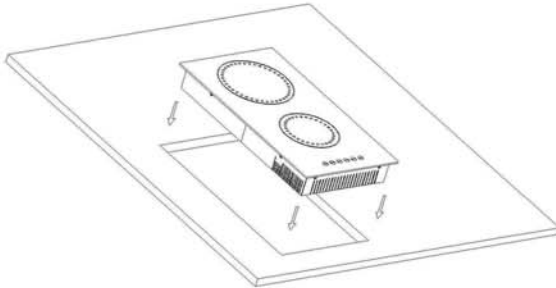
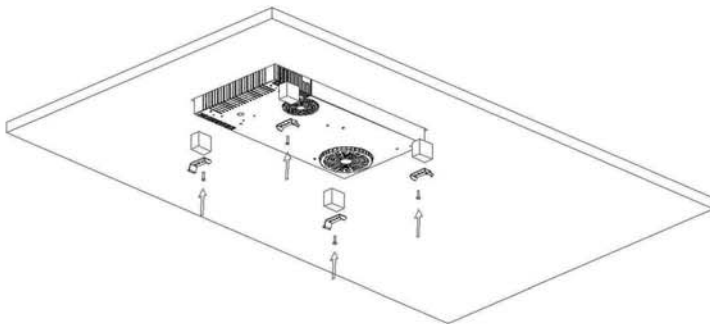

Fig. 8
Fig. 9
3. Put the Hob into the top carefully (Fig.8)
5. Secure the wooden block with the base and tighten the 4 screw for the holder (4pcs) supplied. (Fig.8 and Fig.9)